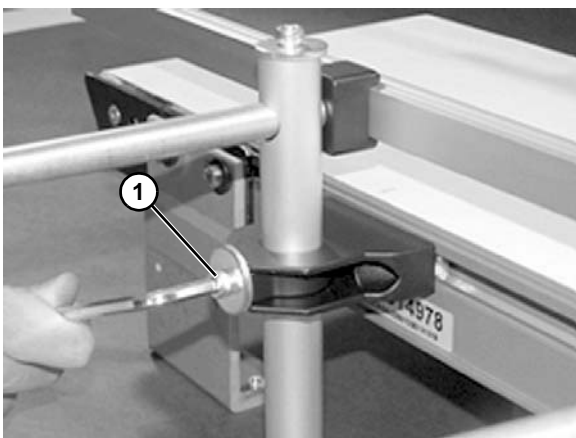

Figure 42
7. Adjust rail height with lower screw (**Figure 42, item 1**).